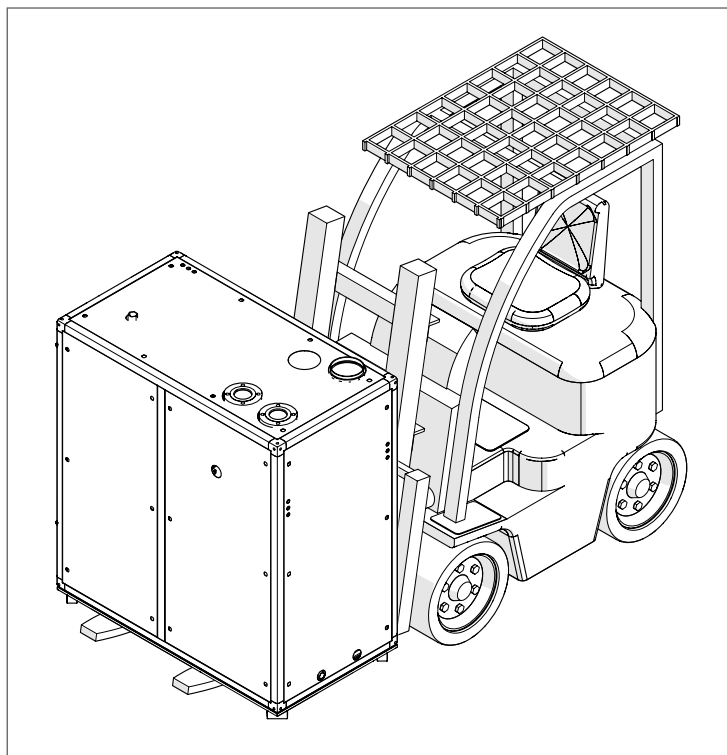

Fig. 4 Array AR 1000, AR 1500 and AR 2000 Forklift Handling
**⚠ WARNING:** When lifting or moving the boiler with a forklift: make sure the forks are longer than the boiler size (width or depth) so that forks stick out as per Fig. 4.